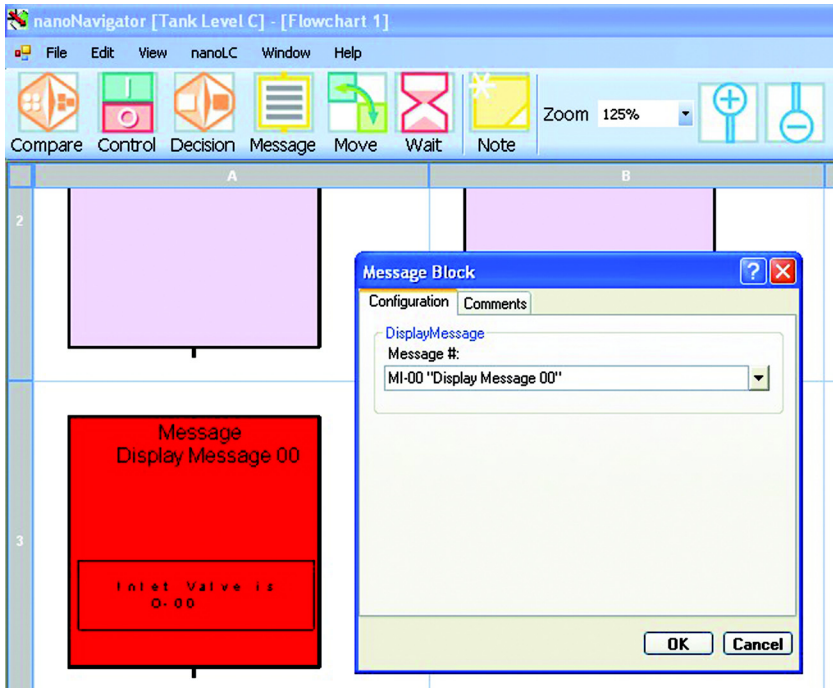

Figure 1-10 Message Block dialog box for cell A3
4. Enter data in the various fields in the dialog box as shown in Figure 1-10. Click the “OK” button when finished.